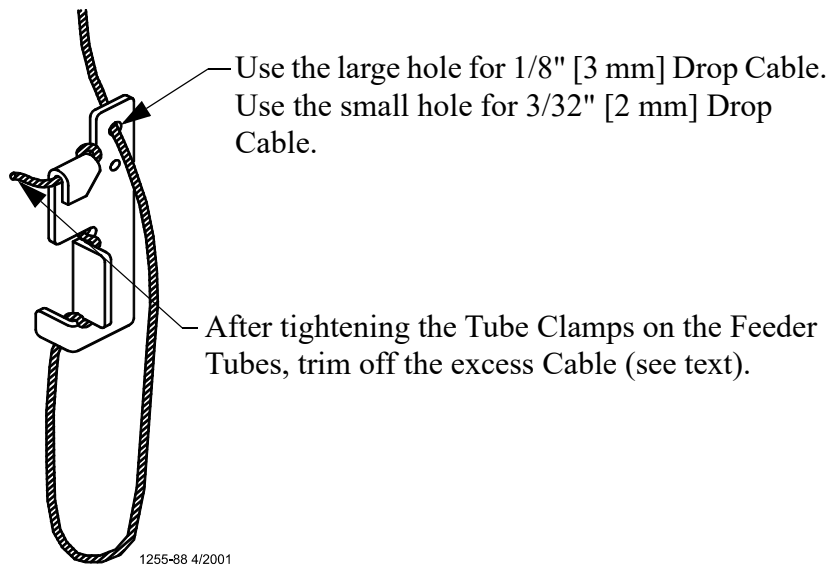

Figure 28. Cable Lock Threading
6. Install Adjustment Leveler within 6" [152 mm] of feeder line. (See **Figure 28.**) shows the proper cable routing around the Adjustment Leveler.
Finally, tighten the Tube Clamps on the feeder tubes. Clamp the joints securely, but do not crush the tubes. Re-adjust all Adjustment Levelers as needed and trim off excess cable as shown in **Figure 28.**